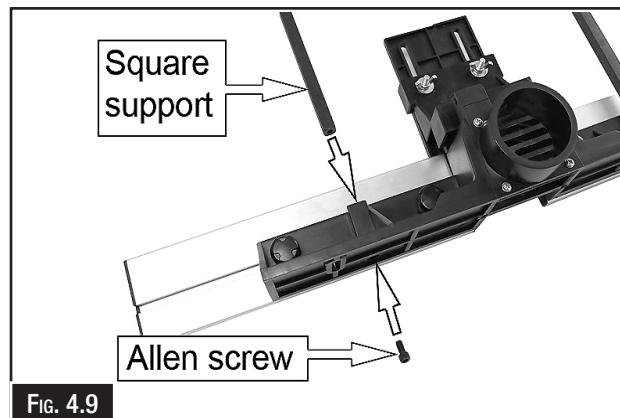

FIG. 4.9
2. Secure them with the 2 Allen screws from below. (Fig. 4.9)